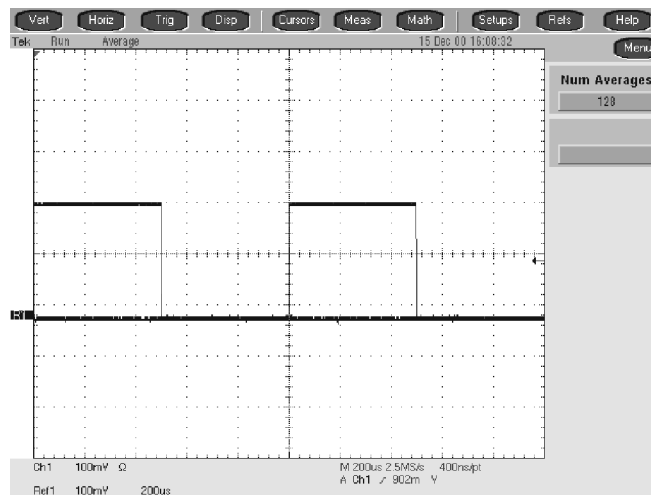

Figure 4-33: Measurement of probe compensator amplitude
- f. Press **Close** to remove the menus from the display. See Figure 4-33.